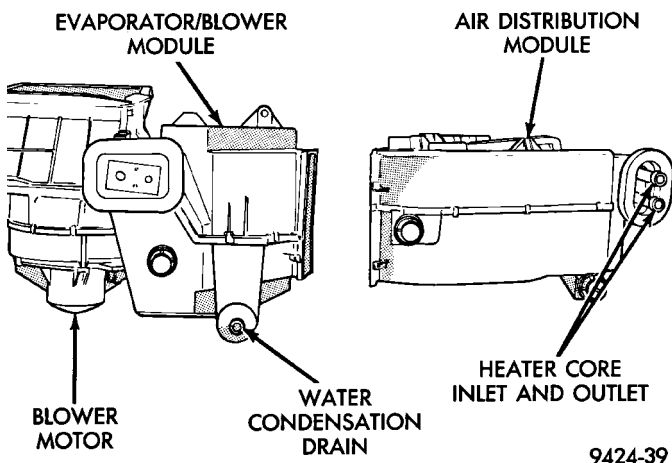

Fig. 46 Air Distribution and Evaporator/Blower Module Separation
(1) Remove the clips and screws that hold the Air Distribution Module to the Evaporator/Blower Module. Then separate the two units (Fig. 46).